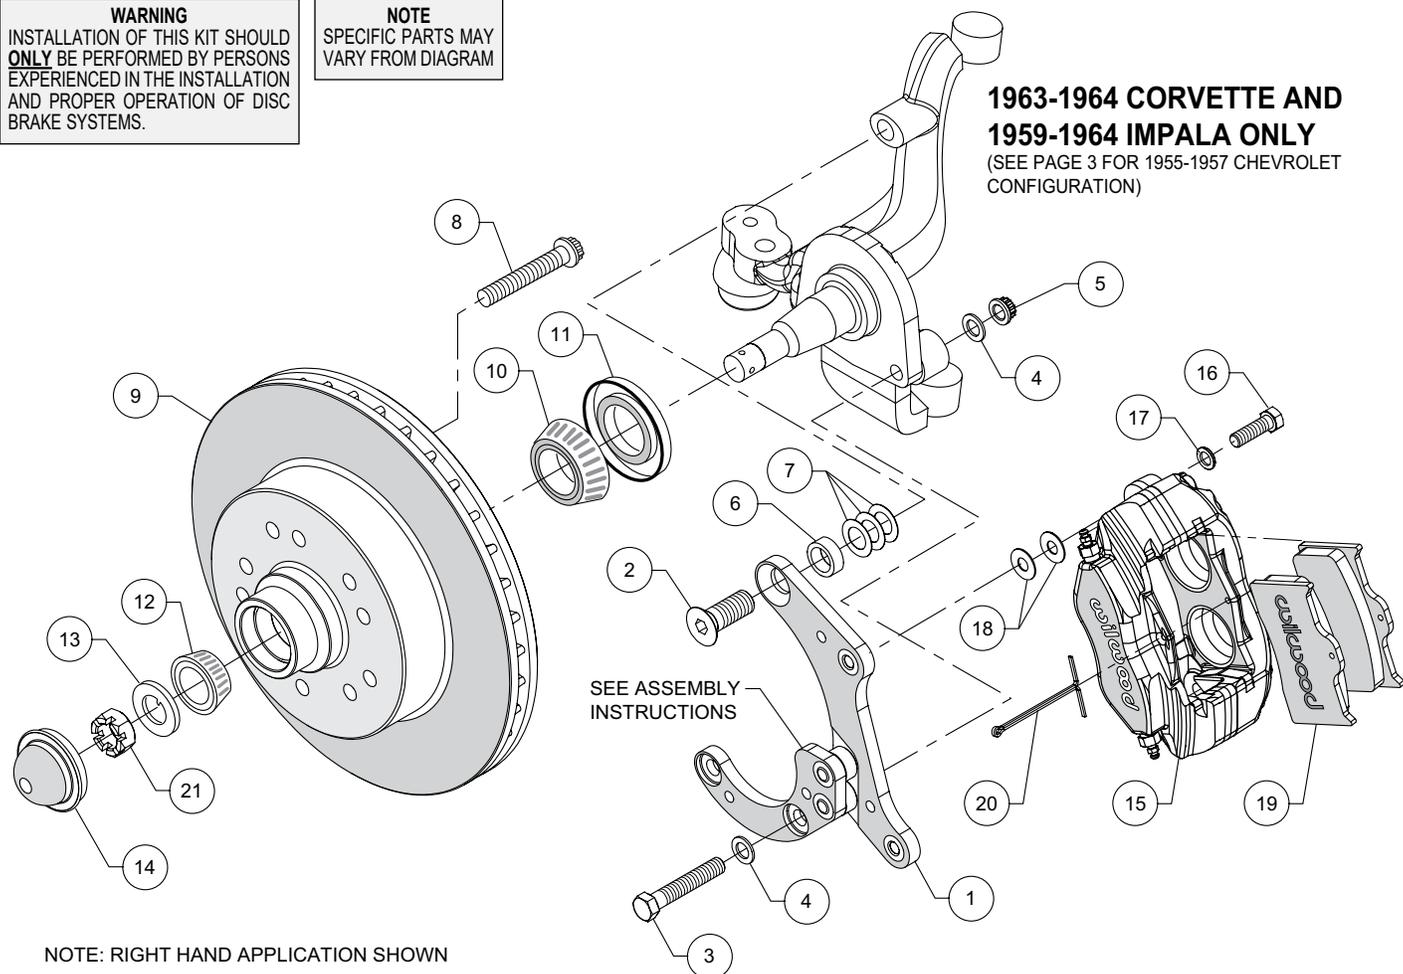
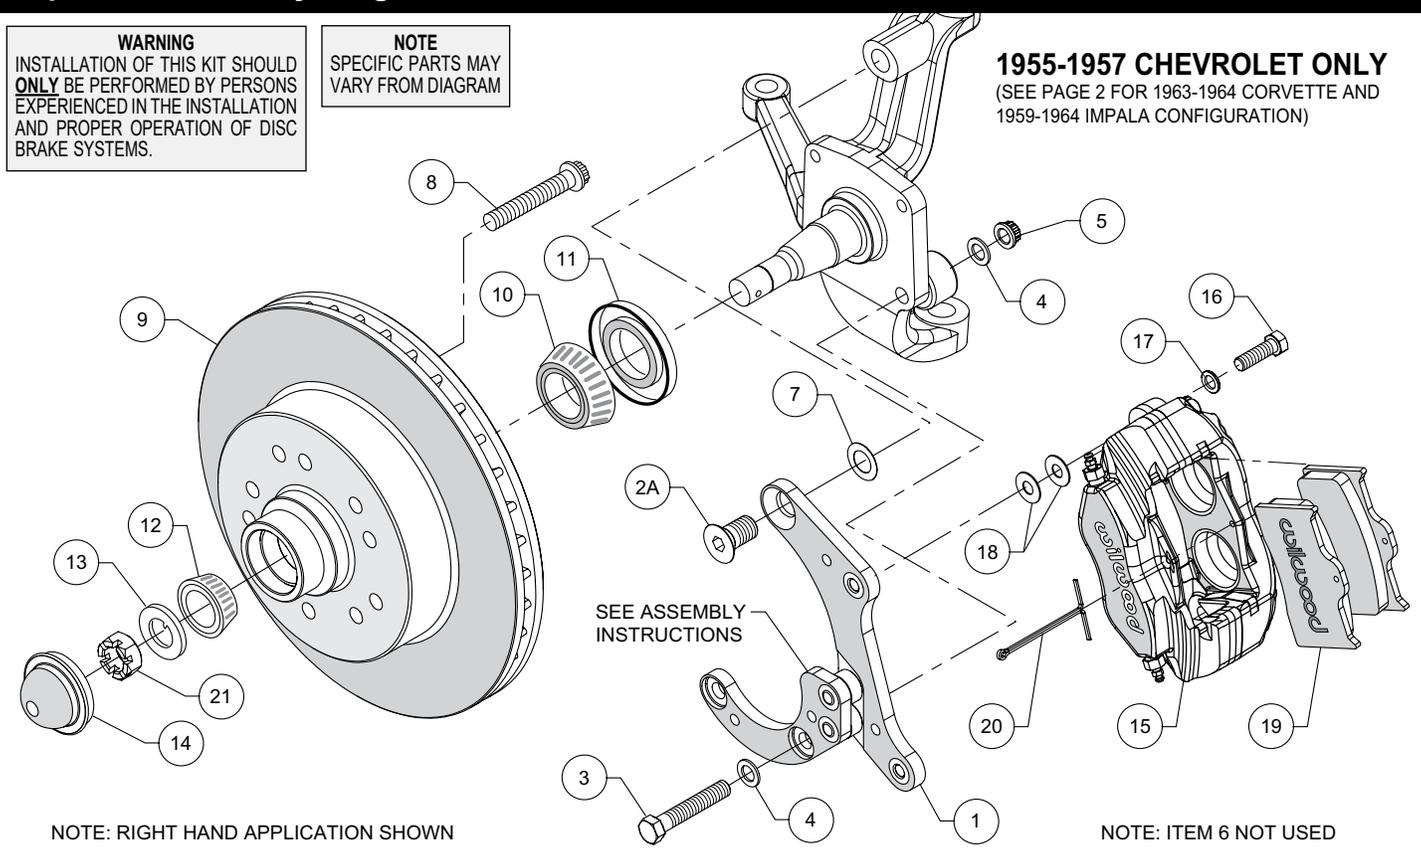

Figure 1. Typical Installation Configuration, 1963-1964 Corvette, 1959-1964 Impala/Belair
Figure 2. Typical Installation Configuration, 1955-1957 Chevrolet
NOTE: Numbers in parenthesis refer to the parts list and Figures 1 and 2 on the preceding pages.
- Orient the bracket as shown in Figure 1 and Photo 1, and install using bolts (2) in the upper hole. Place a .345" thick spacer (6) positioned between the bracket and spindle, as shown in Figure 1. Initially use three .015" shims (7) on the upper bolt between the bracket and spindle, Figure 1. Install bolts (3), washers (4) and nuts (5) in the lower holes, Figure 1. Temporarily tighten the mounting bolts, followed by the two bracket-to-bracket bolts.
- Orient the bracket as shown in Figure 2 and Photo 1, and install using bolts (2A) in the upper hole. Initially use one .015" shim (7) on the upper bolt between the bracket and spindle, Figure 2. Install bolts (3), washers (4) and nuts (5) in the lower holes, Figure 2. Temporarily tighten the mounting bolts, followed by the two bracket-to-bracket bolts. **NOTE:** *The bracket must fit squarely against the mounting points on the spindle.* Inspect for interference from casting irregularities, machining ridges, burrs, etc. Later, after the bracket alignment has been checked, the bolts will be secured using red *Loctite*® 271.
- Install wheel studs (8) into the hub (9), Photo 2. Apply red *Loctite*® 271 to the threads and torque to 77 ft-lb. **NOTE:** *There are two five lug patterns in the hub (5 x 4.50 and 5 x 4.75).* Ensure the correct hub stud pattern is being used to fit the wheel application.
- Pack the large inner bearing cone (10) with high temperature disc brake bearing grease (available from your local auto parts store) and install into the backside of the hub (9), Photo 3.
- Install the grease seal (11) by pressing into the backside of the hub (9), flush with the end of the hub.
- Temporarily install the hub/rotor (9) onto the spindle using outer bearing (12), spindle washer (13) and spindle nut (21). Check that the caliper mounting bracket (1) is aligned parallel to the rotor, Photo 4. If not, adjust by adding or subtracting shims (7) on the upper bolt between bracket and spindle, Figures 1 or 2. Once the bracket alignment is correct, remove the upper bolt (2 or 2A), apply red *Loctite*® 271 to the threads and torque to 140 ft-lb. Torque lower lock nuts to 47 ft-lb. Remove one at a time the bolts that secure the two brackets to each other, apply red *Loctite*® 271 to the threads and torque to 40 ft-lb.
- Remove hub/rotor (9) and pack the small outer bearing cone (12) with high temperature disc brake bearing grease and install into the front side of the hub (9), Photo 5. Slide the hub/rotor onto the spindle. Secure using spindle washer (13), and spindle nut (21). Bearing adjustment: Tighten the nut while turning the hub. When there is a slight bind on the bearings, they are seated correctly. Back the nut off about 1/6 to 1/4 of a turn, or sufficiently to allow .001" to .007" end play. **WARNING:** *Failure to back off adjusting nut could cause bearing to run hot and be damaged, which could cause the wheel to lock or come off.* Install new cotter pin, Photo 6.
- Press the dust cap (14) into the hub (9), Photo 7. **NOTE:** *Do not hammer center of cap. Install using outer flange only.*
- NOTE:** *Please reference the caution statement at the beginning of the assembly instructions.* Mount the caliper (15) onto the caliper mounting bracket (1) using bolts (16) and washers (17), as shown in Figures 1 or 2. Initially place two .035" thick shims (18) on each bolt between the caliper and the bracket, Photo 8. Temporarily